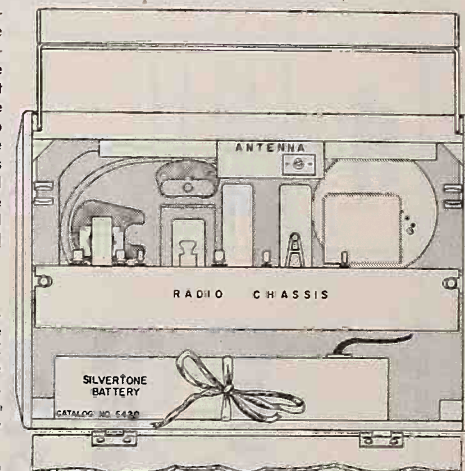

Fig. 2. Rear View of Chassis
The receiver is shipped without the battery. To install the battery first open the back cover, hinged to the bottom of the cabinet and held closed by spring clips midway up the cover. Grasp the cover and pull away from the case. Insert the two (2) pin battery cord plug into the socket on top of the battery and arrange the ribbon stapled in the bottom of the cabinet so that one half comes over the top of the battery and the other half under the battery. Slide the battery—with socket and plug on top and to the left, as viewed from the rear of the set—into the space provided in the lower half of the cabinet. Knot the two ends of the ribbon securely as shown in Fig. 2. The battery plug and socket are so designed that the plug cannot be inserted except in the proper position.